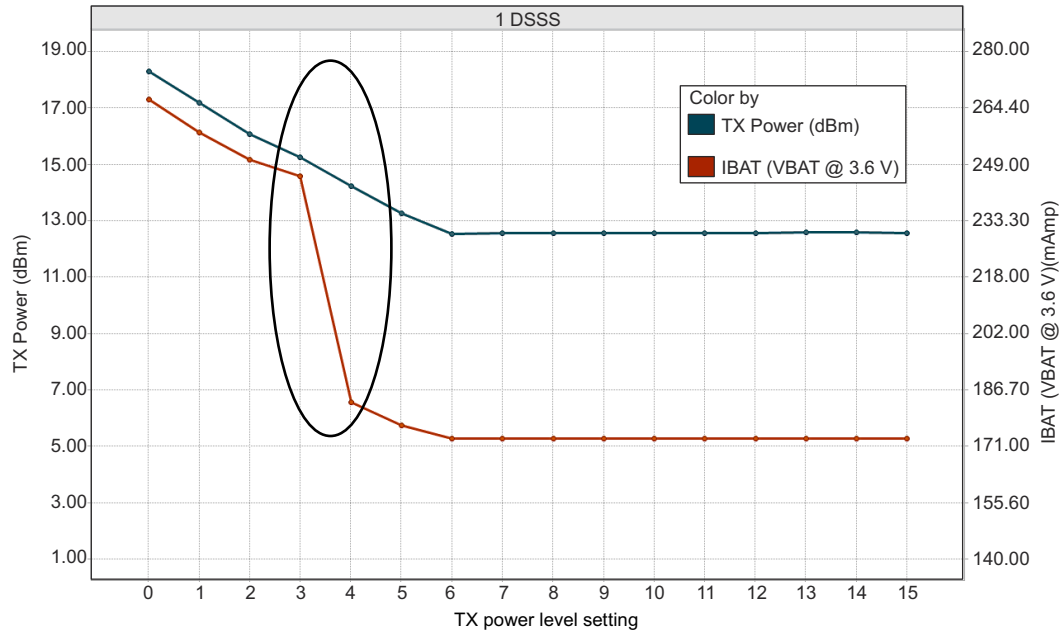
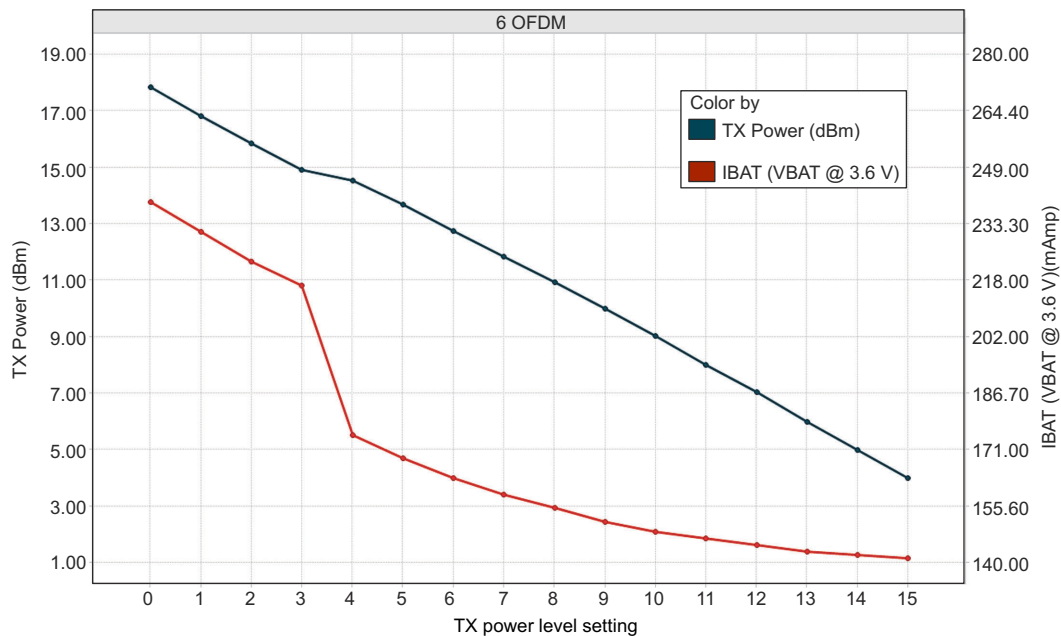
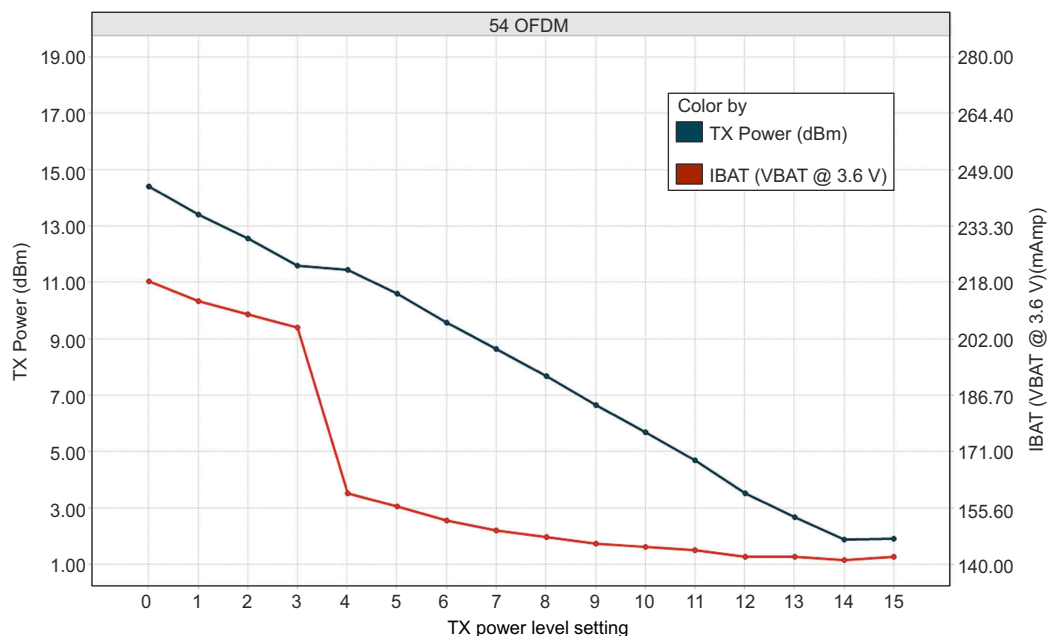

图 7-1. TX Power and IBAT vs TX Power Level Settings (1 DSSS)
图 7-2. TX Power and IBAT vs TX Power Level Settings (6 OFDM)
图 7-3. TX Power and IBAT vs TX Power Level Settings (54 OFDM)
- (1) TX power level = 0 implies maximum power (see 图 7-1, 图 7-2, and 图 7-3). TX power level = 4 implies output power backed off approximately 4 dB.
- (2) The CC3135 system is a constant power-source system. The active current numbers scale based on the V_{BAT} voltage supplied.
- (3) The RX current is measured with a 1-Mbps throughput rate.
- (4) DTIM = 1
- (5) The complete calibration can take up to 17 mJ of energy from the battery over a time of 24 ms. In default mode, calibration is performed sparingly, and typically occurs when re-enabling the NWP and when the temperature has changed by more than 20°C. There are two additional calibration modes that may be used to reduced or completely eliminate the calibration event. For further details, see CC31XX CC32XX SimpleLink™ Wi-Fi® and IoT Network Processor Programmer's Guide.
(1) TX power level = 0 implies maximum power (see 图 7-1, 图 7-2, and 图 7-3). TX power level = 4 implies output power backed off approximately 4 dB.
(2) The CC3135 system is a constant power-source system. The active current numbers scale based on the V_{BAT} voltage supplied.
(3) The RX current is measured with a 1-Mbps throughput rate.
(4) DTIM = 1
(5) The complete calibration can take up to 17 mJ of energy from the battery over a time of 24 ms. In default mode, calibration is performed sparingly, and typically occurs when re-enabling the NWP and when the temperature has changed by more than 20°C . There are two additional calibration modes that may be used to reduced or completely eliminate the calibration event. For further details, see CC31XX, CC32XX SimpleLink™ Wi-Fi® and IoT Network Processor Programmer's Guide.
图 7-1, 图 7-2, and 图 7-3 show TX power and IBAT versus TX power level settings for the CC3135 device at modulations of 1 DSSS, 6 OFDM, and 54 OFDM, respectively.
In 图 7-1, the area enclosed in the circle represents a significant reduction in current during transition from TX power level 3 to level 4. In the case of lower range requirements (14-dBm output power), TI recommends using TX power level 4 to reduce the current.